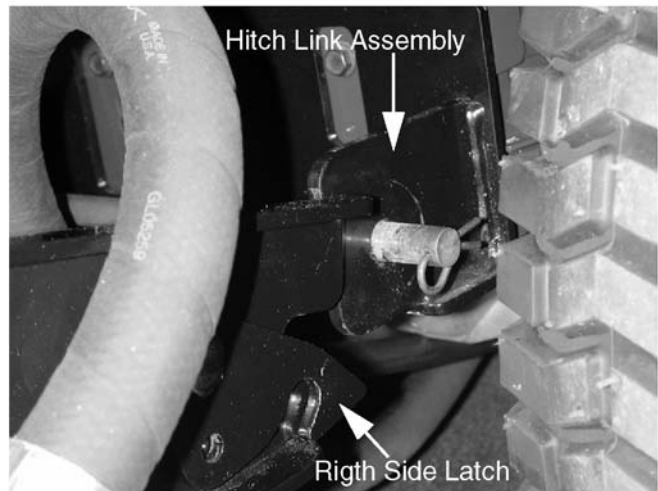

Figure 8-91.
8. Release the right side latch and push the tractor forward until the right side latch releases from the hitch link assembly. See Figure 8-91.